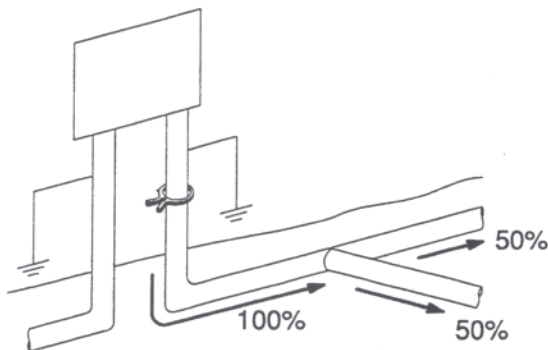

Fig. 3-6
1.12 Clamping the Dyna-Coupler to a cable with drop lines or laterals puts full tone on the cable until the junction point. The lateral splits the tone evenly as in Fig. 3-6. When tracing, a drop in speaker volume and signal level is indicated on the Receiver when it passes the junction. This is an easy way to find laterals.